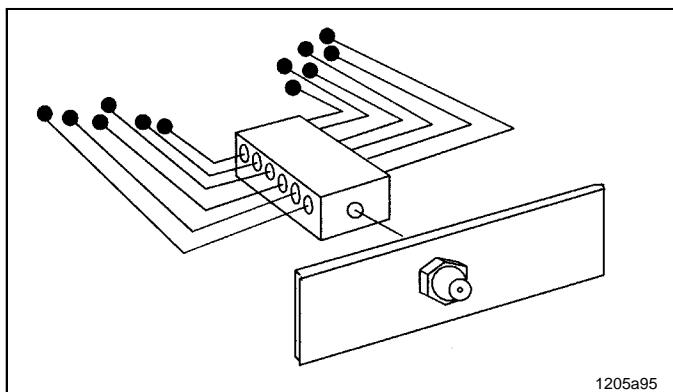

Fig. 49 Central lubrication point (single nipple)
- Quickclub progressive metering devices offer the option of cross-porting several lubrication points on a machine to one or more central lubrication points, as shown in fig. 49 which illustrates this basic feature.